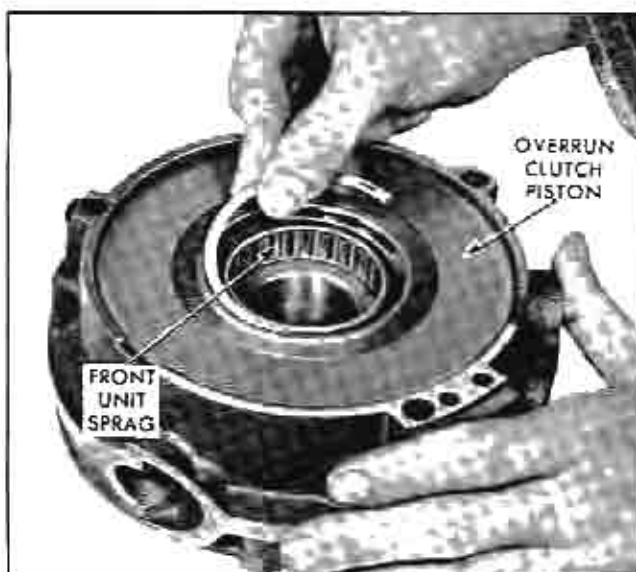

Fig. 104 Removing Front Sprag Retaining Ring
10. Turn pump over and remove sprag inner race, if it was not previously removed, and spiral retaining ring (front sprag to pump) using small screwdriver or needle nose pliers (Fig. 104).